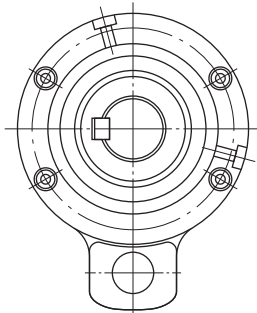

Figure 2/ Figura 2
- For backstops design 257, both screws (12) located on the lid (2) should be removed and the lubricating oil should be poured in the upper hole until it starts to leak from the other hole, located laterally (see figure2).